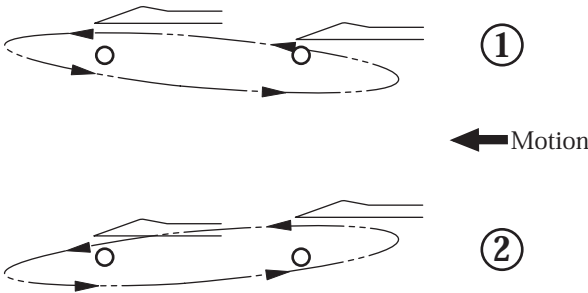

Fig.9
Turn eccentric "6" forward (to the direction ①) and chain looper runs as per motion ①. (See Fig. 9).
Turn eccentric "6" backward (to the direction ②) and chain looper runs as per motion ②. (See Fig. 9).